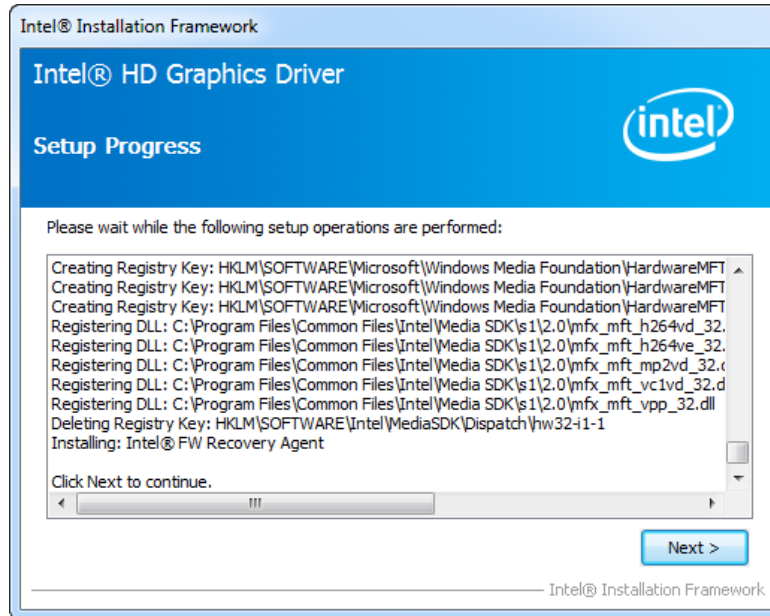

Figure 8-13: Graphics Driver Setup Operations
Step 14: **Setup Operations** are performed as shown in **Figure 8-13**.